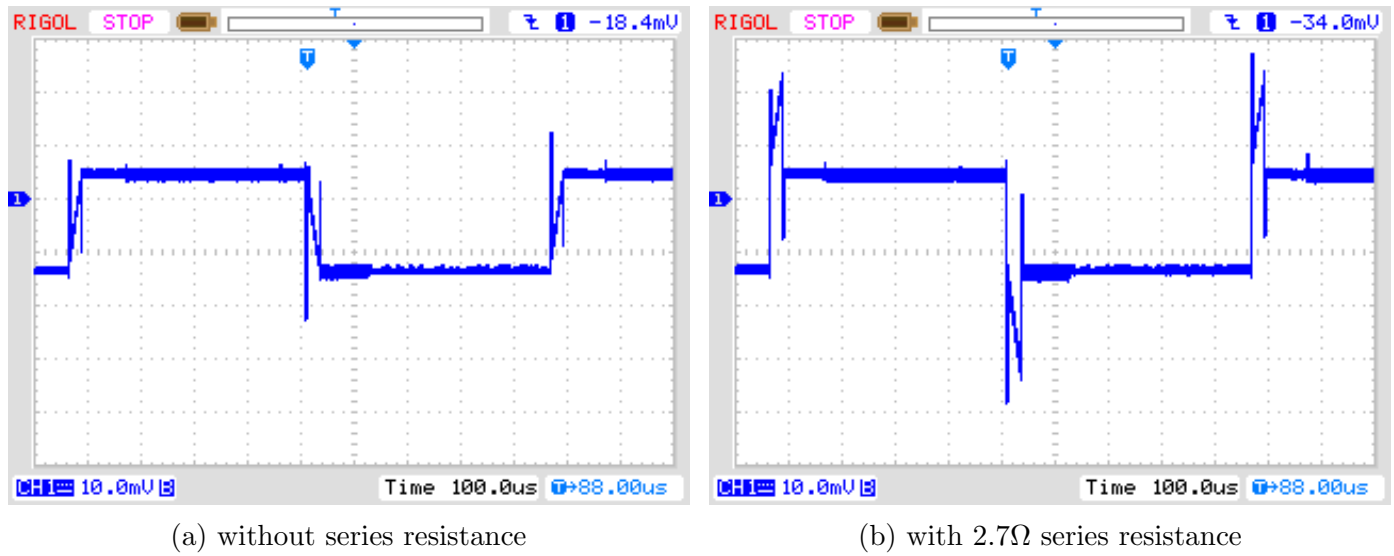

Figure 5.33: Voltage curve of a $10\mu F$ capacitor during new ESR measurement
Due to the shorter load puls not only the ESR of capacitors with lower capacity can be measured, but this way of measurement can also be used for the measurement of resistors with little resistance, if they don't have a detectable inductance. By doing that, a resolution of 0.01Ω for this resistors can be achieved. Also the zero resistance can be detected by the calibration part of the selftest for all three test pin combination. You should keep in mind, that stable plug sockets or clamping connectors are essential for stable results. The measurement periode is about $900\mu s$, which results to a frequency of about $1.1kHz$. Because the load pulse is very short, the measurement result is comparable to measurements with $10kHz$. A measurement example with a $10\mu F$ foil capacitor, once measured alone and once measures with a 2.7Ω series resistor is shown in figure 5.33. You can see the effect of the additional resistance by comparing both diagrams. You can see also, why the ADC measurement (SH) should point to the middle of the load pulse. With big capacity values the load current is nearly stable during the total pulse length, so you will get the middle voltage at the middle time of the load pulse. With lower capacity values you will get a significant difference, which can be compensated by the known capacity value.